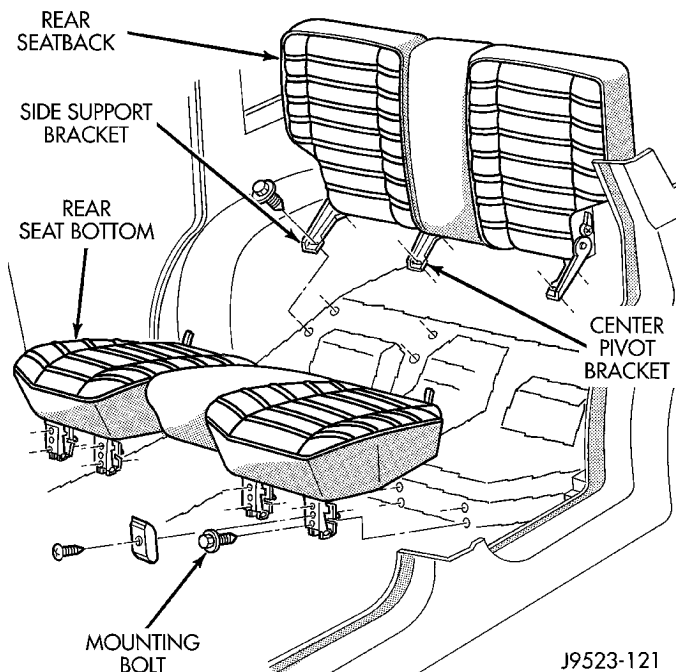

Fig. 51 Rear Seat Mounting
- (1) Remove lower seat cushion. Refer to removal procedure.
- (2) Remove bolts holding seatback side support brackets (left side) (Fig. 51).
- (3) Tilt seatback forward, and slide it outboard to detach it from pin on center pivot bracket.
- (4) Remove left side (60%) seatback from vehicle.
(5) Remove bolts holding seatback side support brackets (right side) (Fig. 51).
(6) Remove right side (40%) seatback from vehicle.